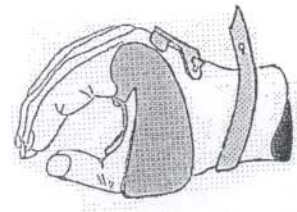

Figure 1
3. What are three of the specific purposes of the device in Figure 1? (3 points)
4. What is the purpose of the “C Bar” in Figure 1? (1 point)